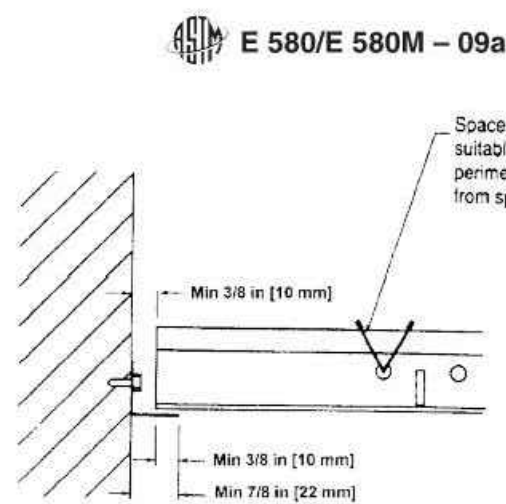
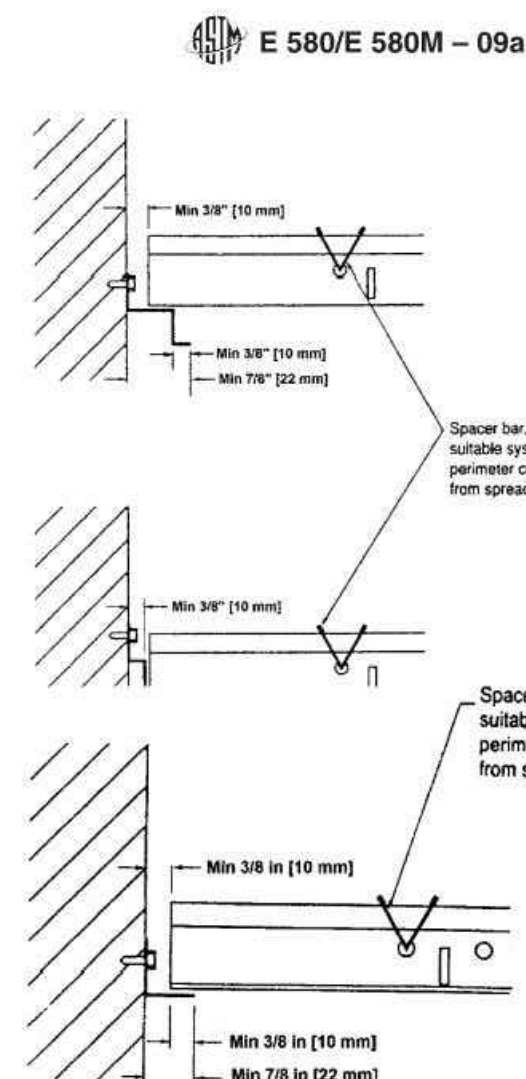

FIG. 1 Category C Treatment of Cross Runners, Main Runners, and Wall Closures at Terminal Ends
FIG. 2 Category C Treatment of Cross Runners and Main Runners at Terminal Ends When Using Reveal (Shadow) Edge Wall Closures
4.2.4 The terminal ends of suspension members shall have a minimum of 3/4-in. [9-mm] clearance from the wall as shown in Fig. 1. Reveal (shadow) edge wall closures with these clearances are shown in Fig. 2.